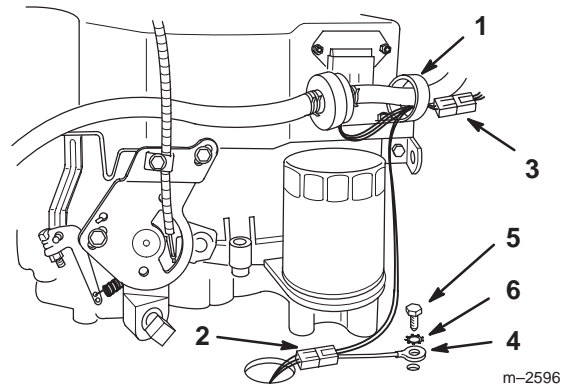

Figure 8
1. Route regulator wires through J-clip on engine, and plug in clutch and engine in-line wire connectors (Fig. 8).
2. Secure ground wire to one of three holes in frame, at rear of engine, with self-tapping screw and star washer (Fig. 8).
3. Secure wire harness and throttle to upper handle with cable tie (Fig. 8)